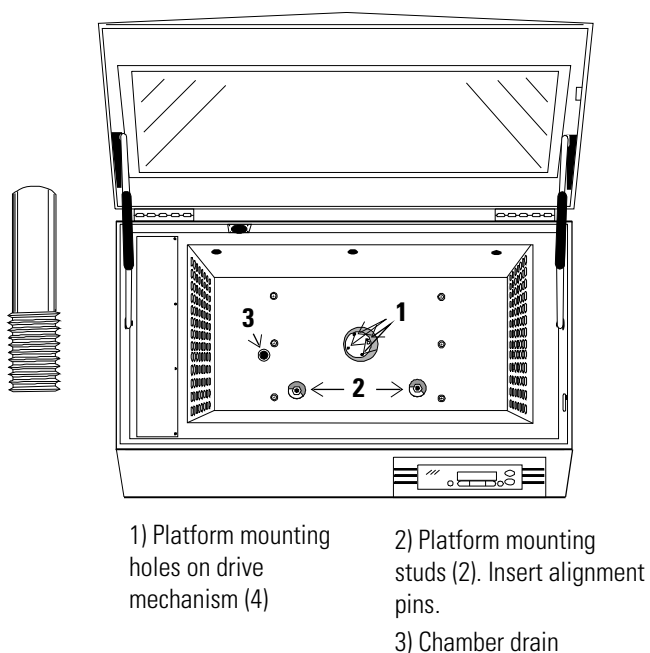

Figure 1-8. Hole Locations
1. Insert the two 1/4-20 alignment pins into the two mounting holes identified in Figures 1-8 and 1-9.